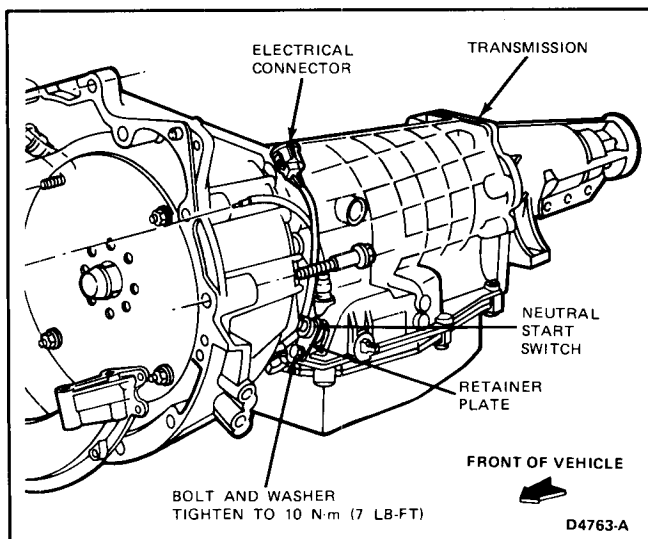

FIG. 3 Neutral Start Switch—Installation
- Disconnect the electrical connector from the neutral start switch pigtail (Fig. 3).
- Remove the bolt, washer and retainer plate retaining the switch to the transmission case and remove switch (Fig. 3).